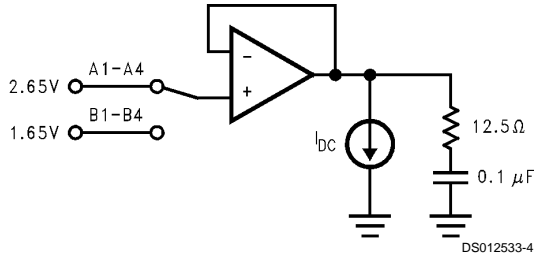
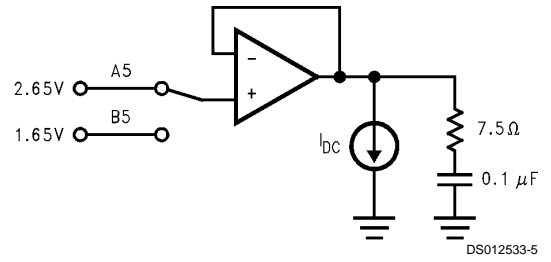
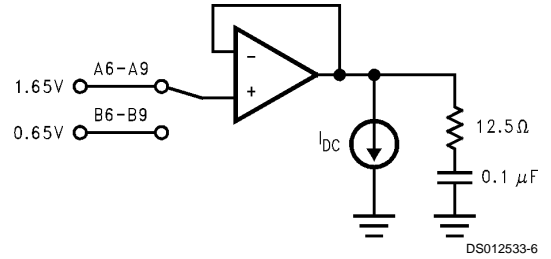

FIGURE 3. A1: 13 mA Source only
FIGURE 4. 13 mA Sink/Source
FIGURE 5. A6–A8: 13 mA Sink/Source
**Note 2:** See test circuits (Figure 3, Figure 4 and Figure 5)